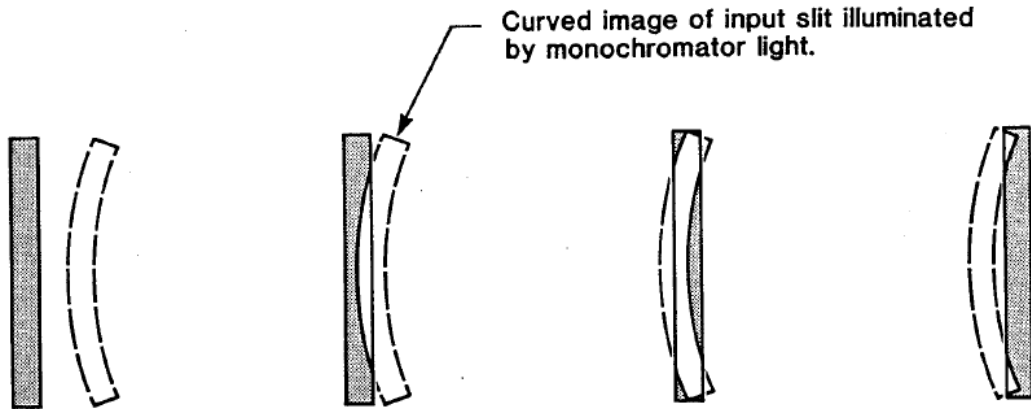

Figure 3: The exit slit appears straight, whereas the illuminated image of the entrance slit appears curved (exaggerated in the illustration).
**Note:** The illuminated image is slightly curved. This is normal. Therefore, align the straight exit slit with the image (see Figure 3).